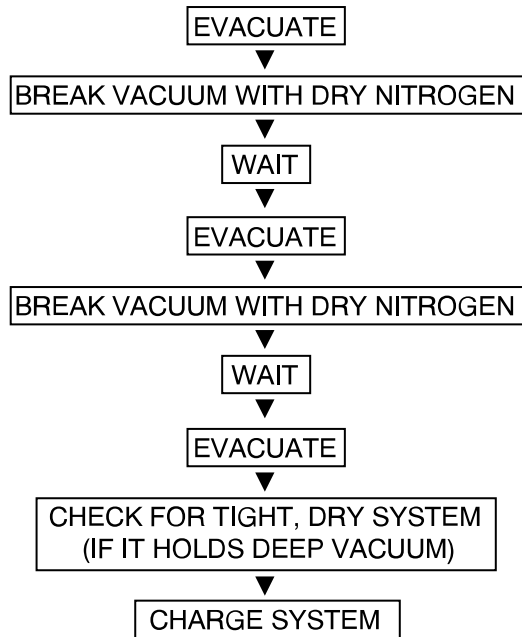

Fig. 22 – Triple Evacuation Method
The triple evacuation method should be used when vacuum pump is only capable of pumping down to 28 in. of mercury vacuum and system does not contain any liquid water. Refer to Fig. 22 and proceed as follows:
5. Repeat this procedure as indicated in Fig. 22. System will then be free of any contaminants and water vapor.